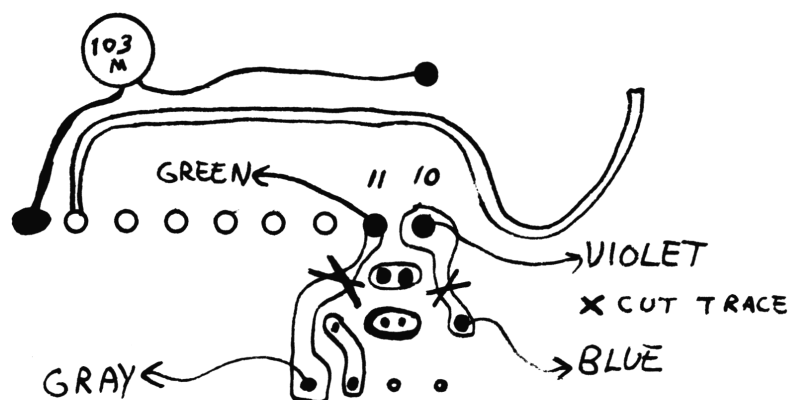

FIG. 2
12. Make a cut on the trace of pin 10 of the 8719 chip as shown in Fig. 2.